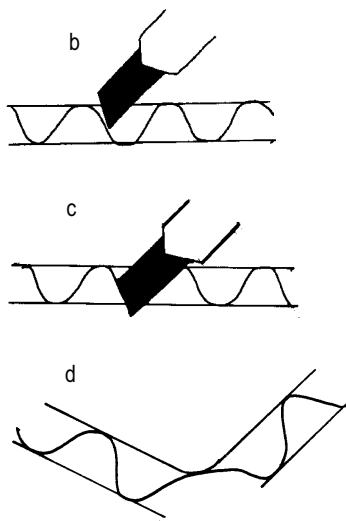

**Figure 1.2**
2. To score the cardboard, measure off a line as shown in Figure 1.2.